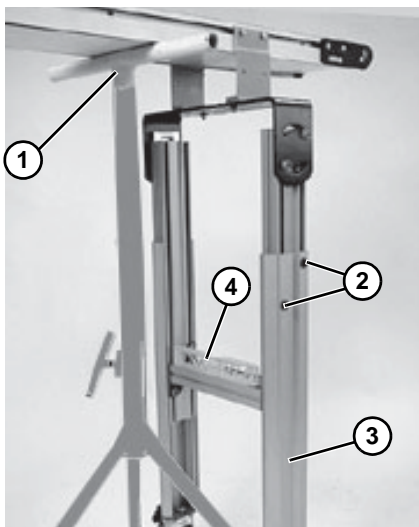

Figure 22
1. Using a support (Figure 22, item 1), raise conveyor and stand off the floor.
2. Loosen button screws (Figure 22, item 2).
3. Raise or lower stand leg (Figure 22, item 3) to the required height. Level stand from side to side using a level (Figure 22, item 4).
Failure to secure screws (Figure 22, item 2) may cause conveyor sections to drop down causing severe injury.
TIGHTEN SCREWS (Figure 22, item 2) AFTER ADJUSTMENT.
4. Tighten button screws (Figure 22, item 2) to 150 in-lb (17 N-m).
1. Loosen button screws (Figure 22, item 2).
3. Tighten button screws (Figure 22, item 2) to 150 in-lb (17 N-m).